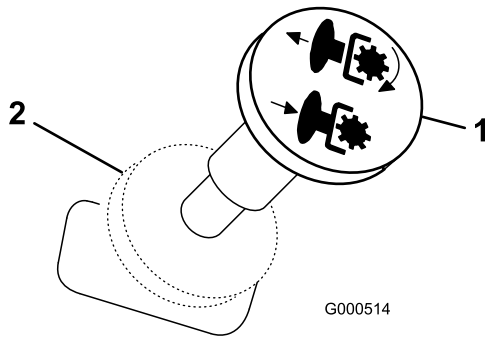

Figure 13
4. Pull out on the power take off (PTO) switch to engage it (Figure 13).
To disengage, push the PTO switch to the off position (Figure 13).